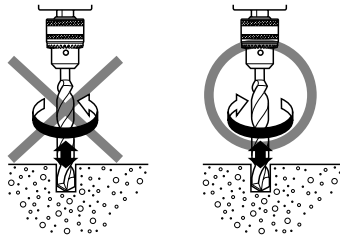

Fig. 1
3. Always use the impact drill with clockwise rotation, when using it as an impact drill. **(Fig. 1)**